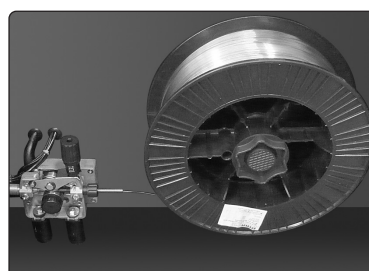

fig.8
4.8.2. Unscrew the locking knob from the end of the spool holder (see fig.7C) and remove the spacer (B). The spacer is not required for 15kg reels of wire. Slide the reel of wire onto the spool holder and ensure that the clutch pin at the back of the spool holder (E) engages into the guide hole in the wire reel moulding. This will prevent the wire reel from freewheeling on the spool holder. Ensure that the wire is coming off the bottom of the reel in the direction of the wire drive unit as shown in fig.8 below.